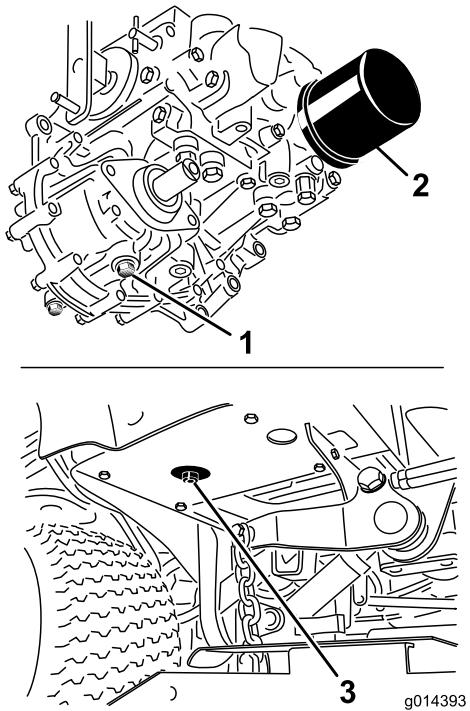

Figure 43
3. Place a large pan under the hydraulic reservoir and transmission case and remove the plugs, draining all of the hydraulic fluid (Figure 43).
4. Clean the area around the hydraulic oil filter and remove it (Figure 43).